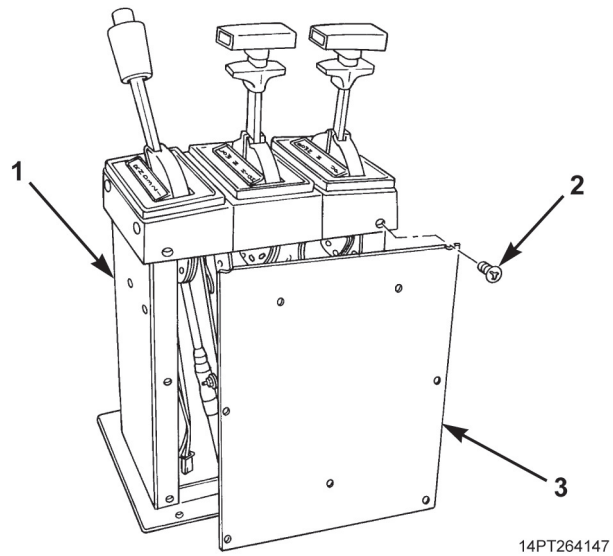

Figure 1. Rear Access Panel Removal.
1. Remove six screws (Figure 1, Item 2) and rear access panel (Figure 1, Item 3) from shift tower (Figure 1, Item 1).